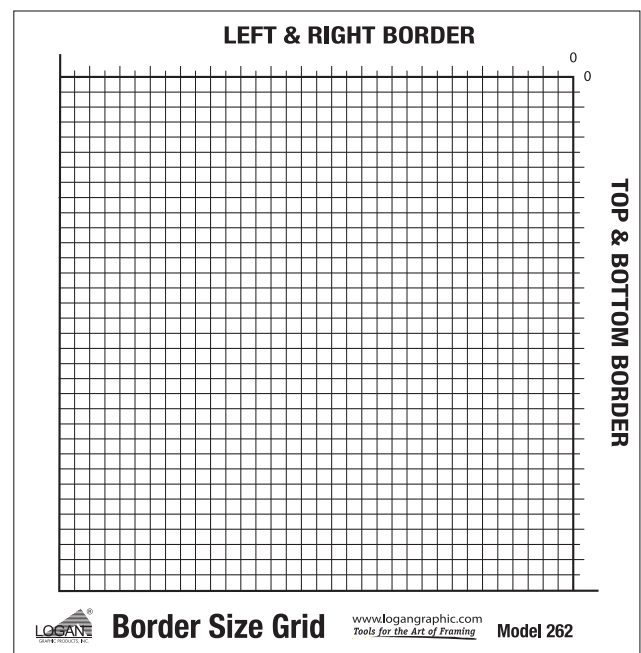

Fig. 2
2. Border Guide (Fig. 2) – white measurement grid and an alignment corner stop on the underside.